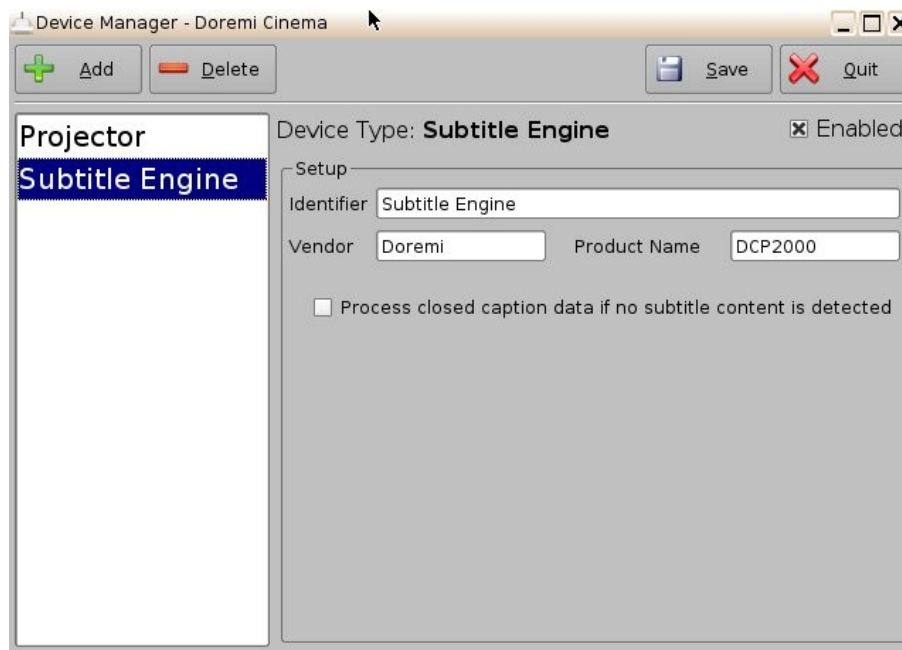

Figure 110: Subtitle Engine Added
- To complete the configuration, click the Save button (Figure 110). The user will be asked for a password. Enter the appropriate password and press Ok.